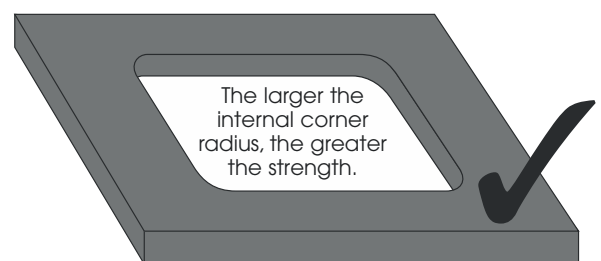

Fig. 38
- The quality of the machined cut-out must be smooth and have a minimum internal corner radius of 6mm (See Fig. 38).